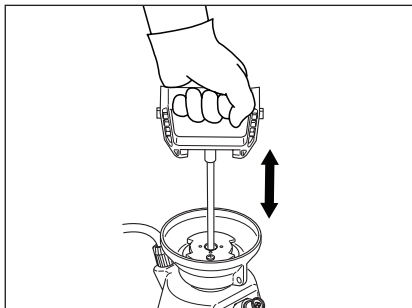

Figure 7. Pressurize the Tank
3. Pressurize the sprayer by pumping the handle in a smooth up and down motion. See Figure 7.